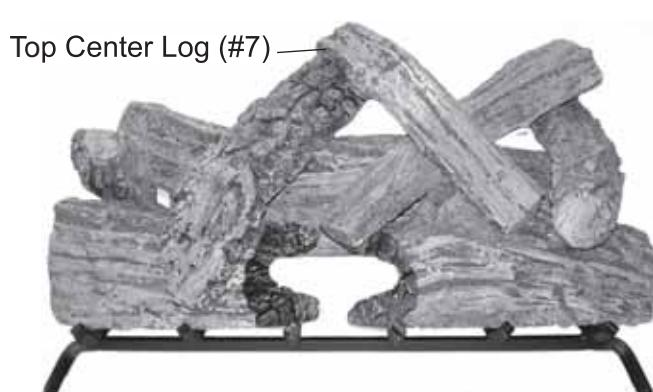

Figure 120 - Installing Top Center Log (#7)
9. Lay Top Center Log #7 across log #5 with front end resting on Log #1. See Figure 120.